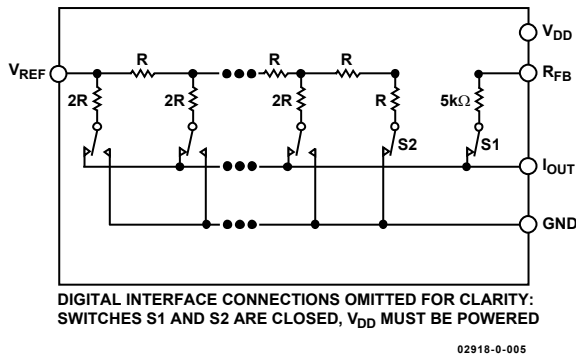

Figure 16. Equivalent R-2R DAC Circuit
The DAC architecture uses a current-steering R-2R ladder design. Figure 16 shows the typical equivalent DAC. The DAC contains a matching feedback resistor for use with an external I-to-V converter amplifier. The RFB pin is connected to the output of the external amplifier. The IOUT terminal is connected to the inverting input of the external amplifier. These DACs are designed to operate with both negative or positive reference voltages. The VDD power pin is used only by the logic to drive the DAC switches ON and OFF. Note that a matching switch is used in series with the internal 5 kΩ feedback resistor. If users attempt to measure the RFB value, power must be applied to VDD to achieve continuity. The VREF input voltage and the digital data (D) loaded into the corresponding DAC register, according to Equation 1 and Equation 2, determine the DAC output voltage.